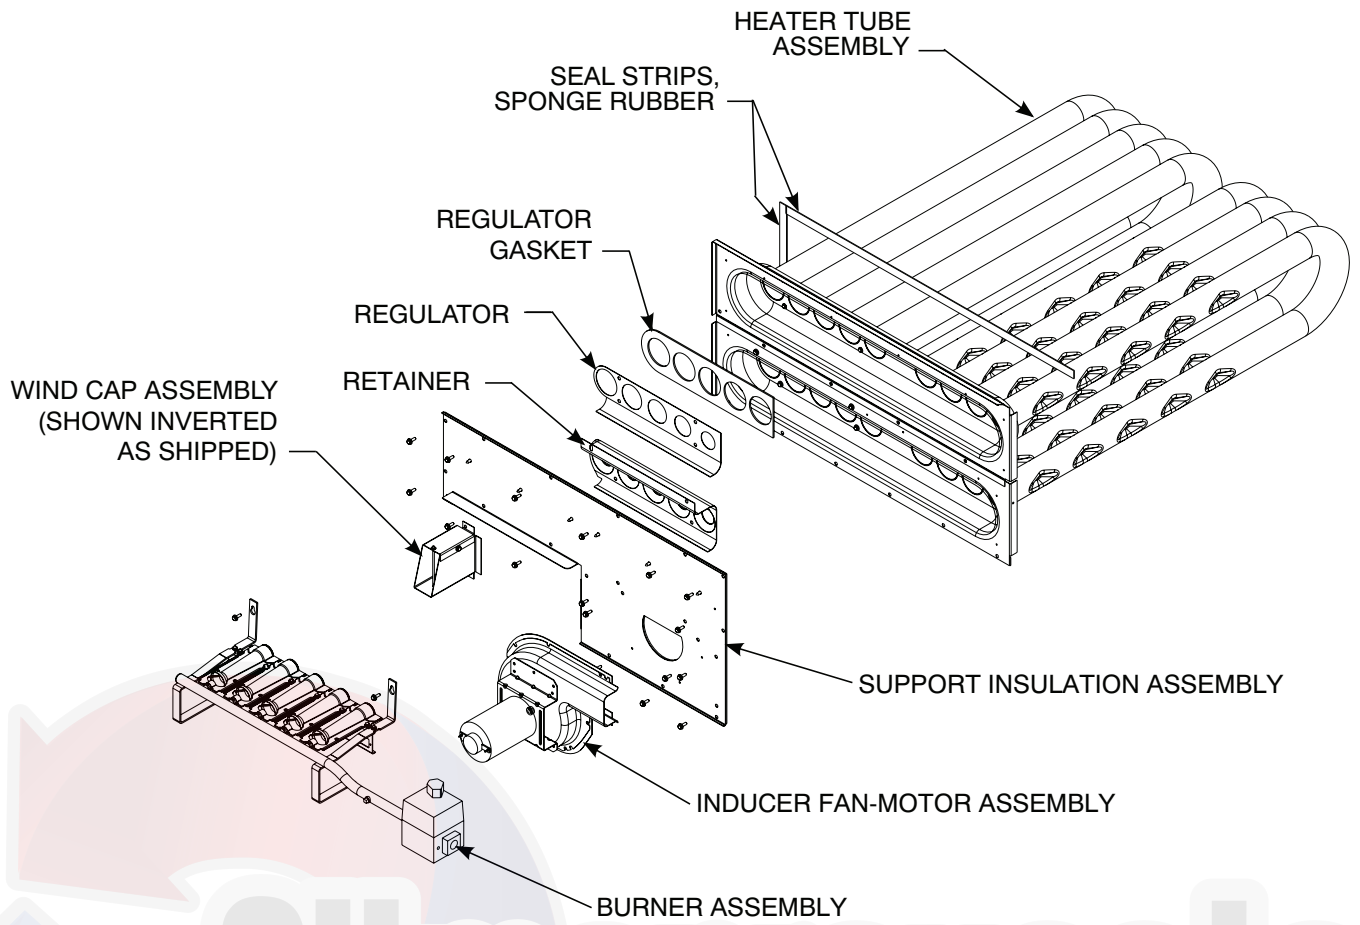
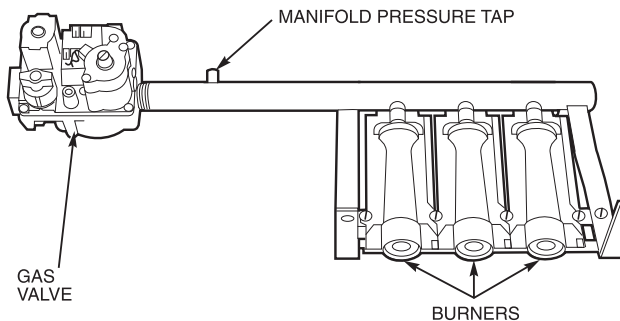

Fig. 60 - Typical Heat Exchanger Assembly Sizes 04-14
Fig. 63 - Burner Tray Details
1. Remove the combustion blower wheel and motor assembly according to directions in Combustion-Air Blower section. See Fig. 60.
2. Remove the 7 screws that attach induced-draft motor housing to vestibule plate. See Fig. 60 and 61.
See Fig. 55, Fig. 60 and Fig. 63.
7. Remove the 2 screws that attach the burner rack to the vestibule plate. See Fig. 60.
8. Slide the burner tray out of the unit. See Fig. 63.
1. Remove manifold pressure tap plug from manifold and connect pressure gauge or manometer. See Fig. 63.
10. Turn off unit, remove pressure manometer and replace the 1/8 in. pipe fitting on the gas manifold. See Fig. 63.